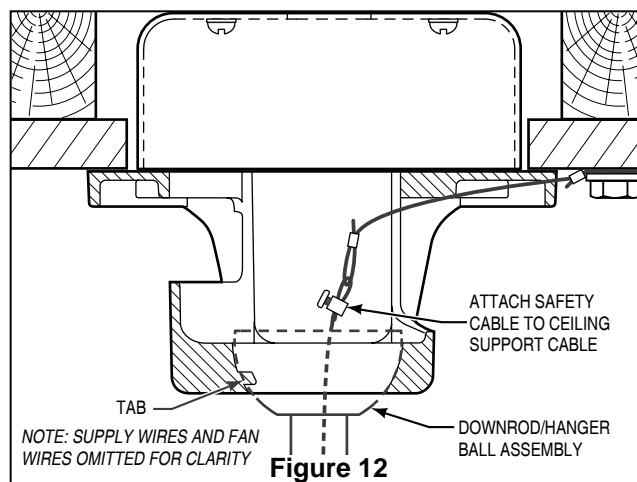

Figure 12
4. Carefully lift the fan and seat the downrod/hanger ball assembly on the hanger bracket that was just attached to the outlet box. Be sure the groove in the ball is lined up with tab on the hanger bracket (Figure 12)
5. Attach the safety cable to ceiling support cable. Slide cable clamp onto safety cable (from fan). Place the end of cable through the loop of ceiling support cable. Pull as much cable through loop as possible. Feed end of cable into clamp hole and firmly tighten screw (Figure 12).